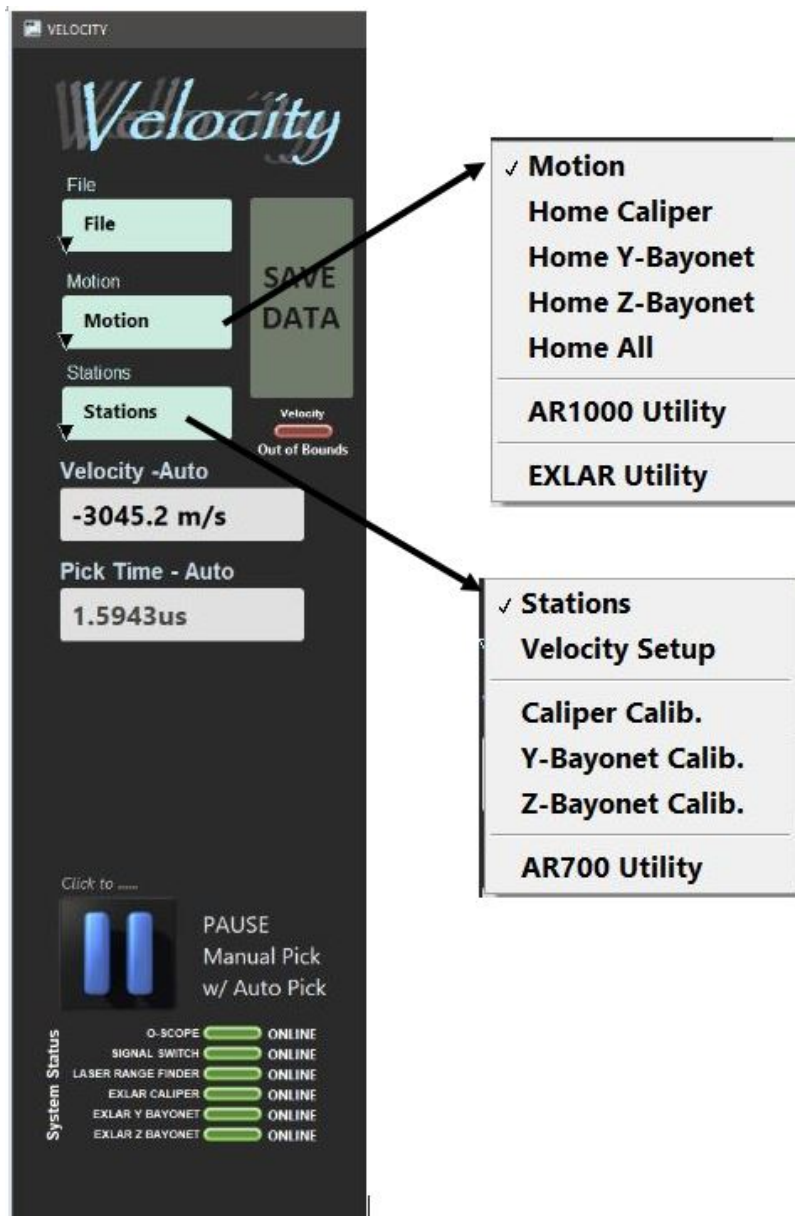
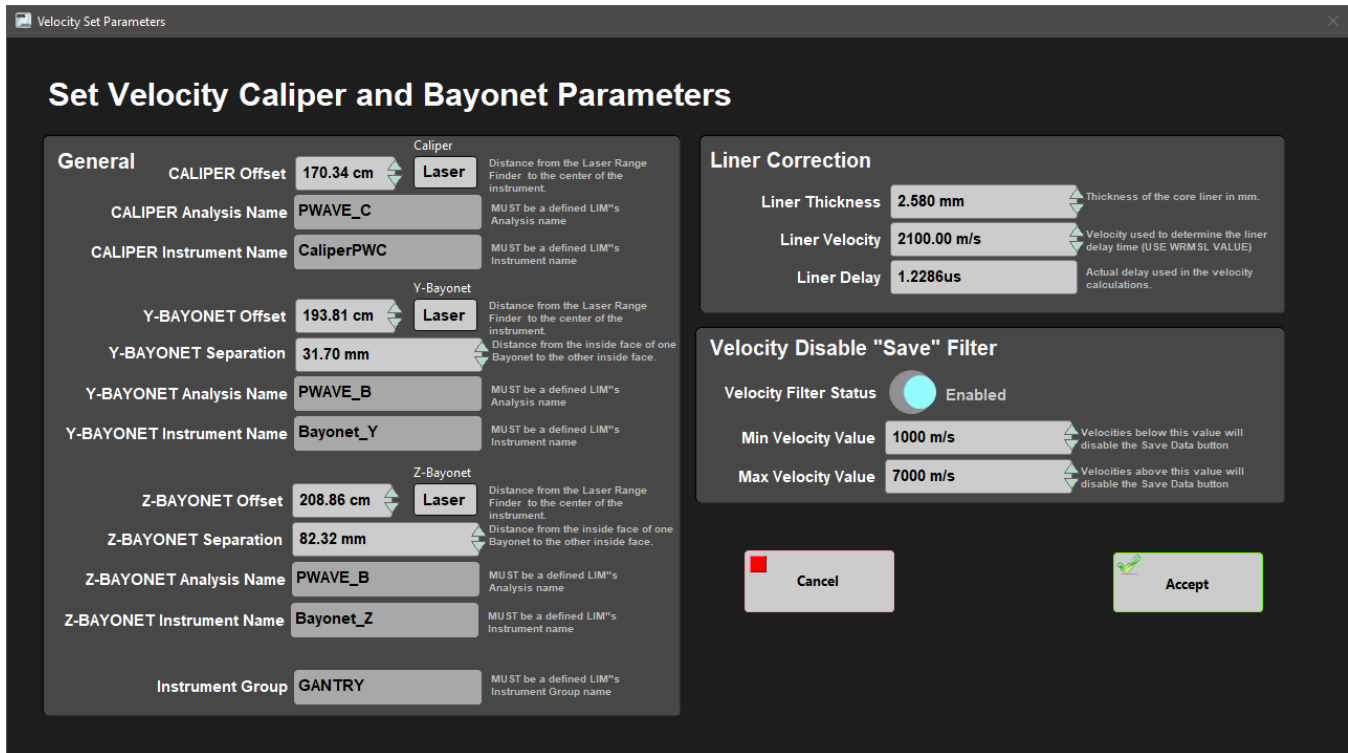
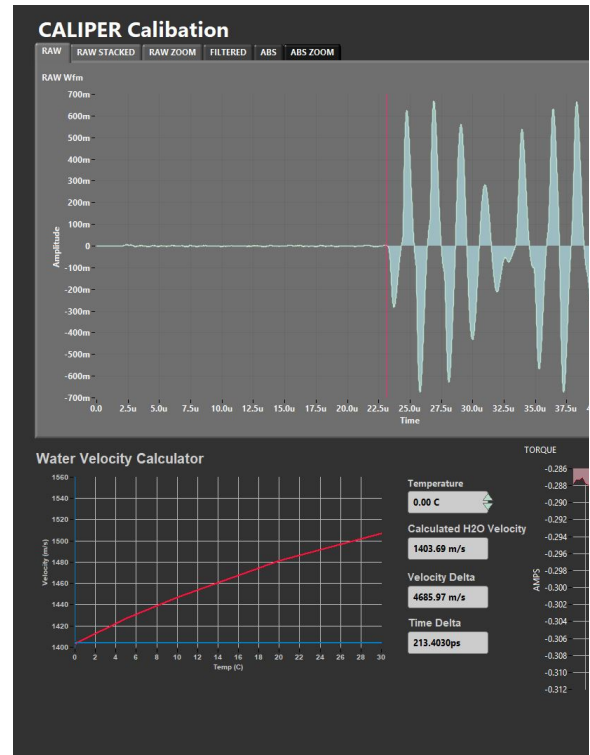

Figure 8. IMS Control Panel Drop Down Menus
Figure 9. Velocity Parameters Window
Figure 10. Caliper Calibration Windows. Raw data graph tab (left) and the ABS zoom graph tab (right)
The three buttons on the left side of the IMS-UI window provide access to utilities/editors via dropdown menus as shown in **Figure 8**.
To open the Velocity instrument setup window (Figure 9), select **Stations > Velocity Setup** from the IMS panel menu (Figure 8).
1. Ensure the values in the window are set as shown in Figure 9.
To open the Caliper calibration window (**Figure 10**), select **Stations > Caliper Calib.** from the IMS panel menu (**Figure 8**).
7. Verify the software is picking the first arrival wave in the *Raw Stacked* graph tab. You can adjust the threshold scale bar to achieve the proper pick location (**Figure 10**). Observe the graph to verify the system is getting a clean signal. If you are not getting a clean signal, follow the steps in the trouble shooting section of this guide. Also, verify the auto-pick location in the Absolute Value tab (ABS or ABS Zoom). This pick should be at the zero crossing after the first significant wave form above noise (**Figure 10**).
To open the Bayonet calibration window (**Figure 11**), select **Stations > Y-Bayonet Calib. or Z-Bayonet Calib.** from the IMS panel menu (**Figure 8**).
4. Verify the bayonet separation value. If the value is incorrect, return to the Velocity Setup window (**Figure 9**) to edit the value.
5. Verify the automatic velocity pick in the Raw Stacked graph tab (**Figure 10**). You can adjust the threshold scale bar to achieve the proper pick location as long as the signal is not too noisy. The user may want to verify the auto-pick location in the Absolute Value tab (ABS or ABS Zoom). This pick should be at the zero crossing after the first wave form.
5. Verify the automatic velocity pick in the Raw Stacked graph tab (**Figure 10**). You can adjust the threshold scale bar to achieve the proper pick location, or pause the system to do a manual pick. The user may want to verify the auto-pick location in the Absolute Value tab (ABS or ABS Zoom). This pick should be at the zero crossing after the first wave form.